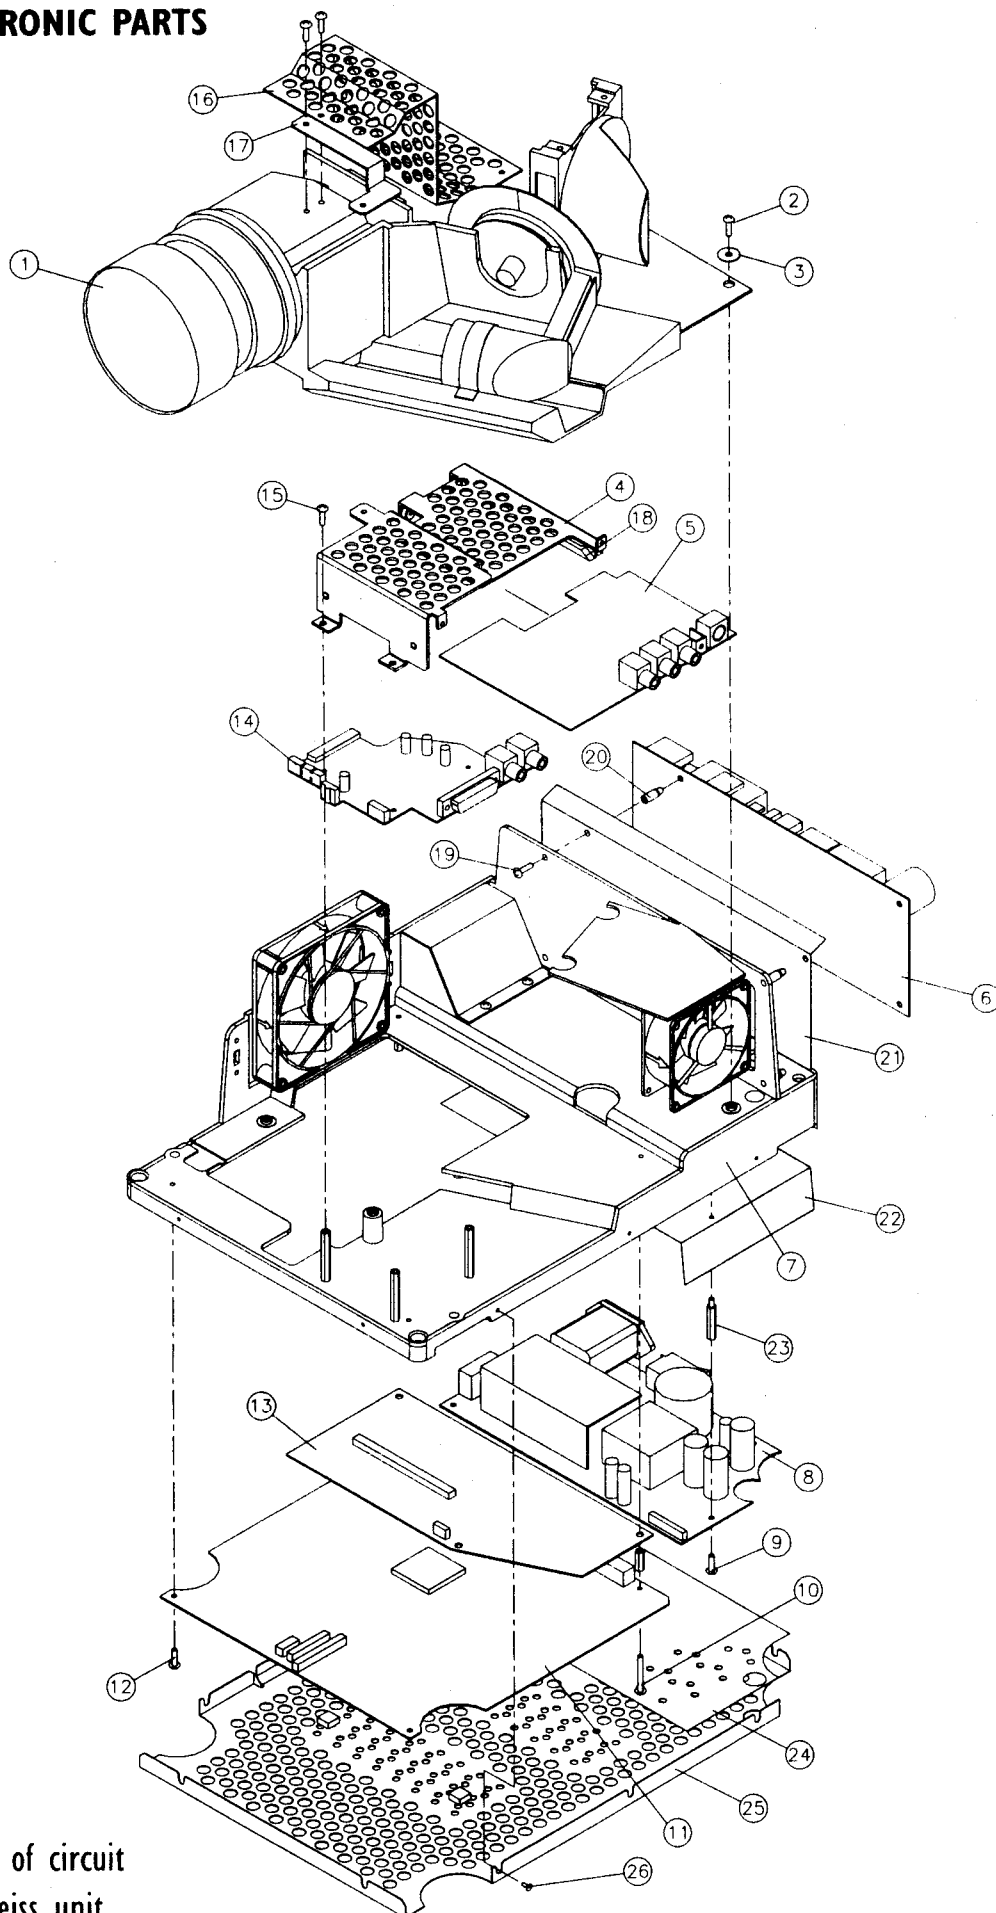

fig.3, location of circuit boards and Zeiss unit.
4. Disconnect cables from the lamp driver (2 pcs.) (**fig. 3 – pos. 6**).
7. Lift front-end power supply PCB (**fig. 3 – pos. 8**) out of main chassis.
8. Disconnect flex cable from main board (**fig. 3 – pos. 11**).
2. Connect cables going through chassis (**fig. 3 – pos. 7**) to the front-end power supply. (2 pcs.)
4. Connect cables to lamp driver PCB (**fig. 3 – pos. 6**). (2 pcs.)
4. Disconnect flex cable from front-end power supply (**fig. 3 – pos. 8**) by unsnapping lock mechanism.
(**fig. 3 – pos. 13**).
4. Connect flex cable from front-end power supply. (**fig. 3 – pos. 8**).
4. Remove DMD shielding (**fig. 3 – pos. 16**), by unscrewing 3 fastening screws.
8. Remove TI formatting board (**fig. 3 – pos. 13**).
2. Place TI formatter board in correct position (**fig. 3 – pos. 13**).
5. Replace DMD shielding (**fig. 3 – pos. 16**), using M3-4 screws
3. Pull video extension board (**fig. 3 – pos. 5**) out
3. Slide out video extension board, (**fig. 3 – pos. 5**) if mounted.
4. Carefully remove flex cables glued to metal housing (**fig. 3 – pos. 4**).